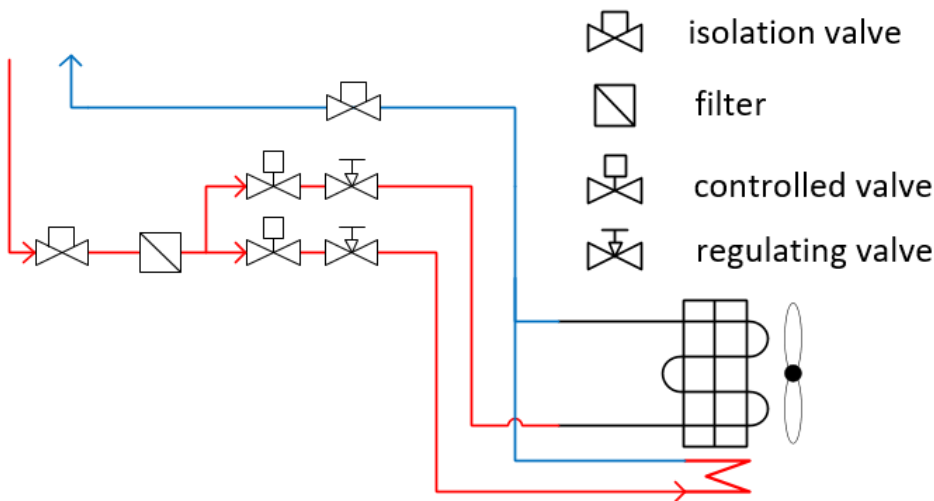

Figure 6: parallel connection glycol defrosting
- separate inlet tubing for coil and tray, common outlet tubing (Figure 6)
**Case 2: Parallel connection (Figure 6): inlet air temperature ≤ -10 °C**